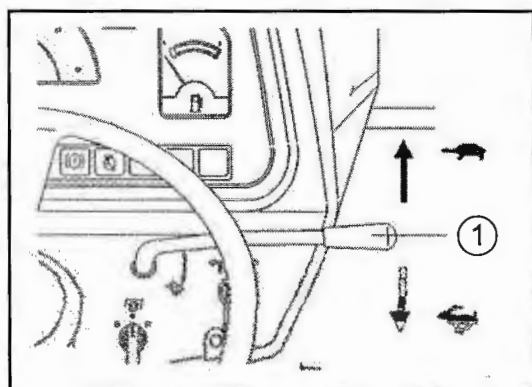

Fig. 12-1 - Hand Throttle
6. **Hand Throttle** - The hand throttle is used to set engine speed to a fixed level. (See Fig. 12-1).